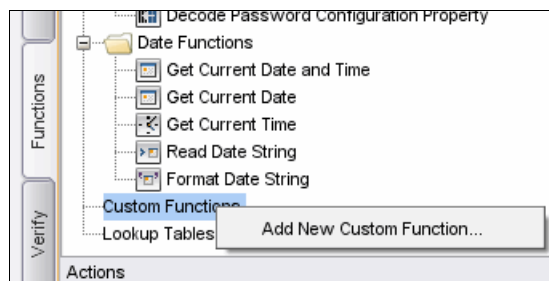

Figure 12-32 Adding a new custom function
1. Select the Functions tab, and then scroll down to the bottom of the functions list. Right-click **Custom Functions**, and then select **Add a new Custom Function**, as shown in Figure 12-32.